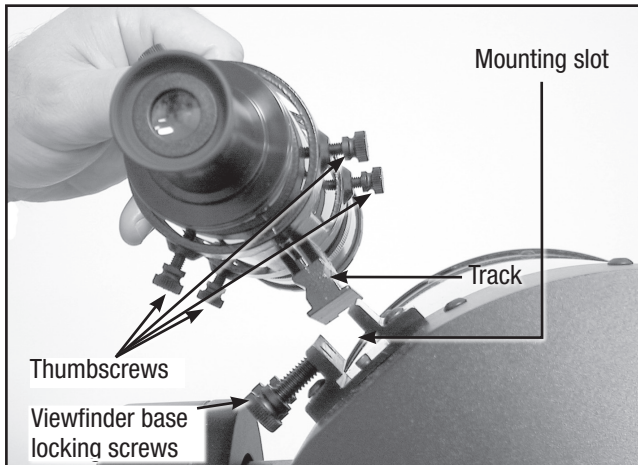

Fig. 4. Viewfinder assembly
- A.** Slide the track on the bottom of the viewfinder into the slot in the viewfinder mounting assembly. To secure the viewfinder to the mounting assembly, tighten the two thumbscrews (Fig. 4) to a firm feel only.